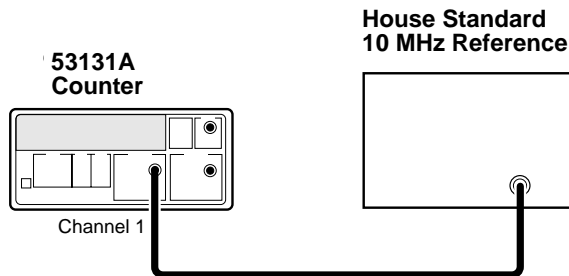

Figure 2-4. Standard Timebase Calibration Setup
- 1 **Connect the output of a 10 MHz house standard to Channel 1 of the Counter as shown in Figure 2-4.**